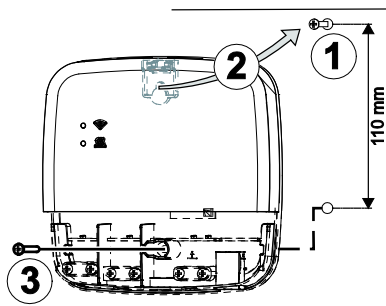

Figure 3: Wall mounting
4. Install Smile Connect with the provided mounting material on the selected assembly site (Figure 3, 1 - 3).